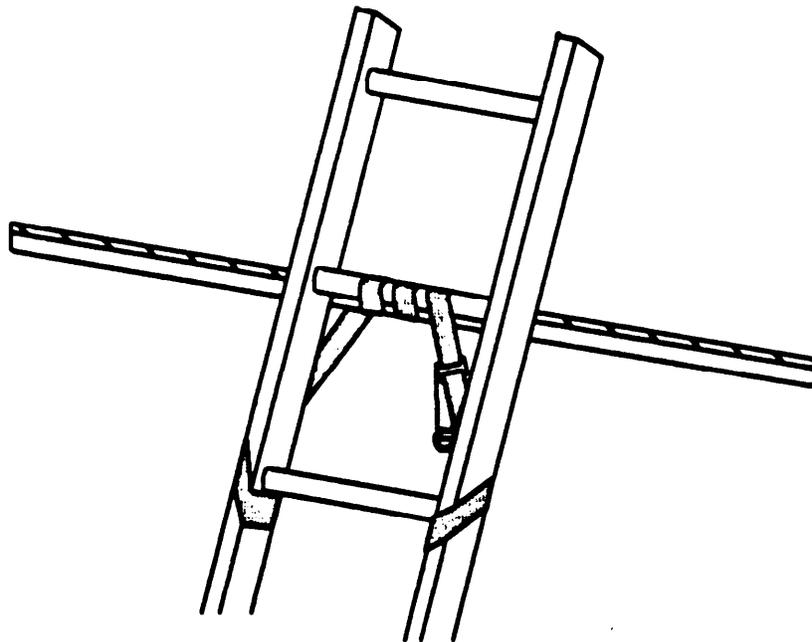

Fig. 6 - Placing the Top-Laddermate on Ladder With Hooks Above Strand
8.02 Securing The Ladder to Suspension Strand - Hooks *Above* Strand (Fig. 6)